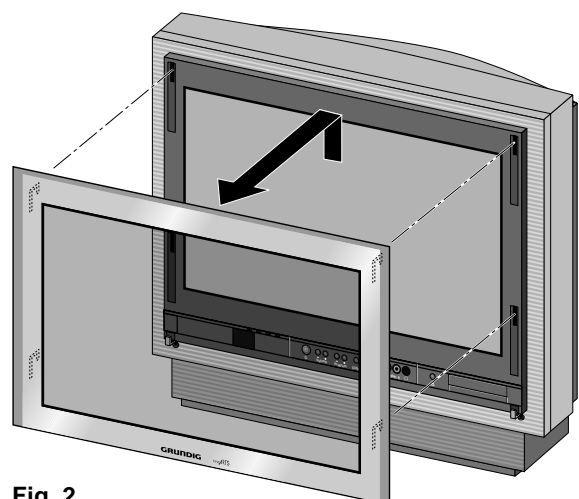

Fig. 2
- Slide up the glass pane and remove it toward the front.(Fig. 2).